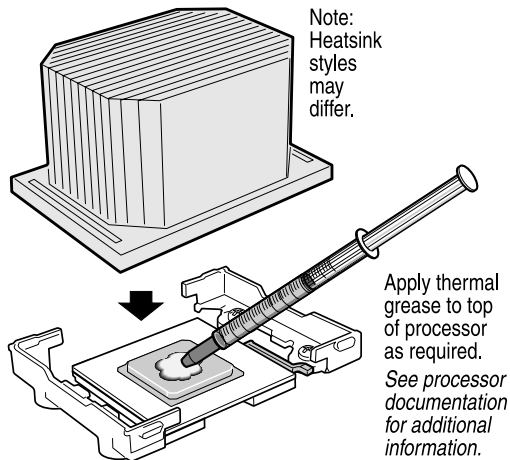

FIGURE 5-23 Applying Thermal Conducting Material
Caution – If you are installing a processor removed from a different server, you must prepare the processor and heatsink so that the heatsink properly conducts the heat away from the processor (see Figure 5-23 on page 5-30). If the processor and heatsink are not properly prepared, damage to the processor or socket can result. You should not allow any surface that has thermal interface material to come in contact with any other surface, as surface contamination may occur.
8. If you have not already done so, apply thermal conducting material to the processor now (see Figure 5-23).